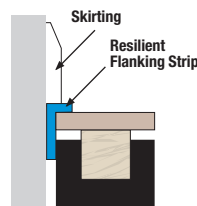

FIG. 8
- Once the boards have been laid fix the skirting boards directly on top of the Resilient Flanking Strip leaving no gaps. Cut away any surplus material. Fig. 8